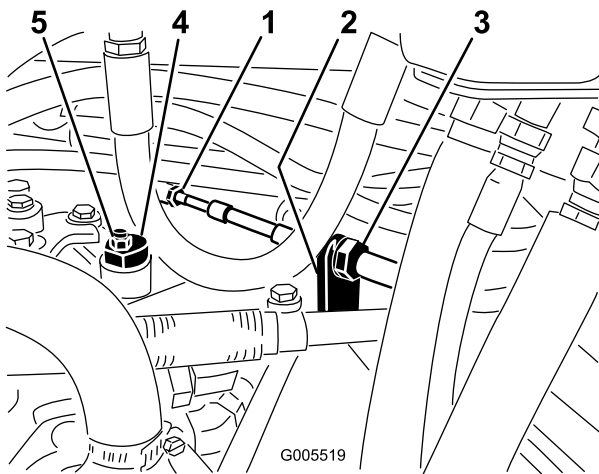

Figure 51
- A. Loosen both jam nuts securing the traction control cable to the bulkhead on the hydrostat (Figure 51). Make sure the jam nuts are loosened equally and sufficiently to allow adjustment.
**Note:** Loosen the nut securing the eccentric to the top of the hydrostat (Figure 51).
- C. Rotate the eccentric until creep does not occur in either direction. When the wheel stops rotating, tighten the nut locking the eccentric and the adjustment (Figure 51). Verify the adjustment with the throttle in the Slow and Fast position.
- D. From each side of the bulkhead, tighten the locknuts evenly, securing the traction cable to the bulkhead (Figure 51). Do not twist the cable.